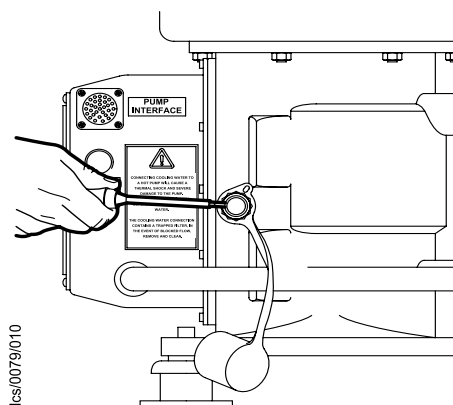

Figure 13 - Remove the filter
4. Flush the filter with water to remove all debris (refer to Figure 13).